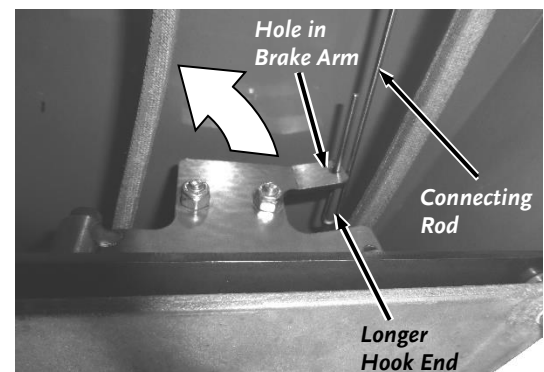

Figure 8
9. Pull the Brake Arm toward you so the longer hook end of the Connecting Rod can be inserted into the small hole and then release the Brake Arm (**Figure 8**).